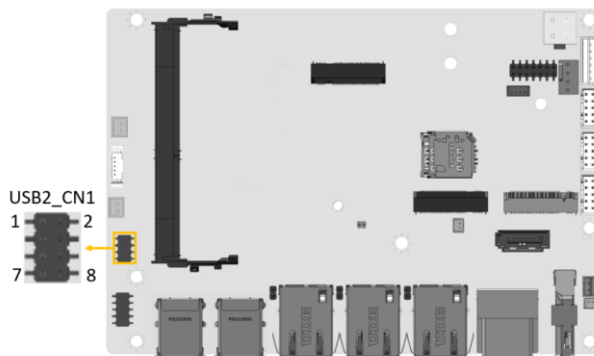
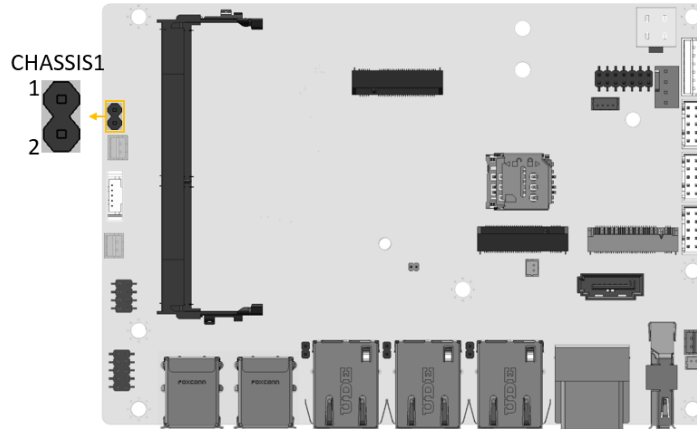

Figure 3-20: USB Connector Location
Figure 3-21 Chassis Intrusion Connector Location
- CN Location:** See **Figure 3-20**
- CN Location:** See **Figure 3-21**Figure 3-20